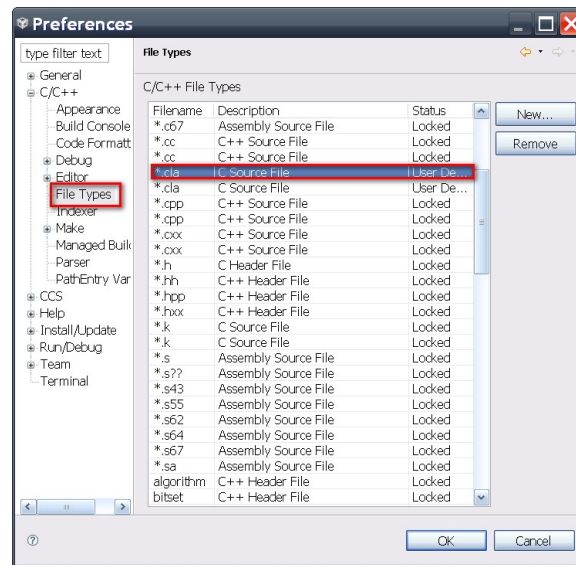

Figure 5.3: Configuring CCS5 to recognize the .cla extension
4. In the drop down menu select C source file(see Fig. 5.3).